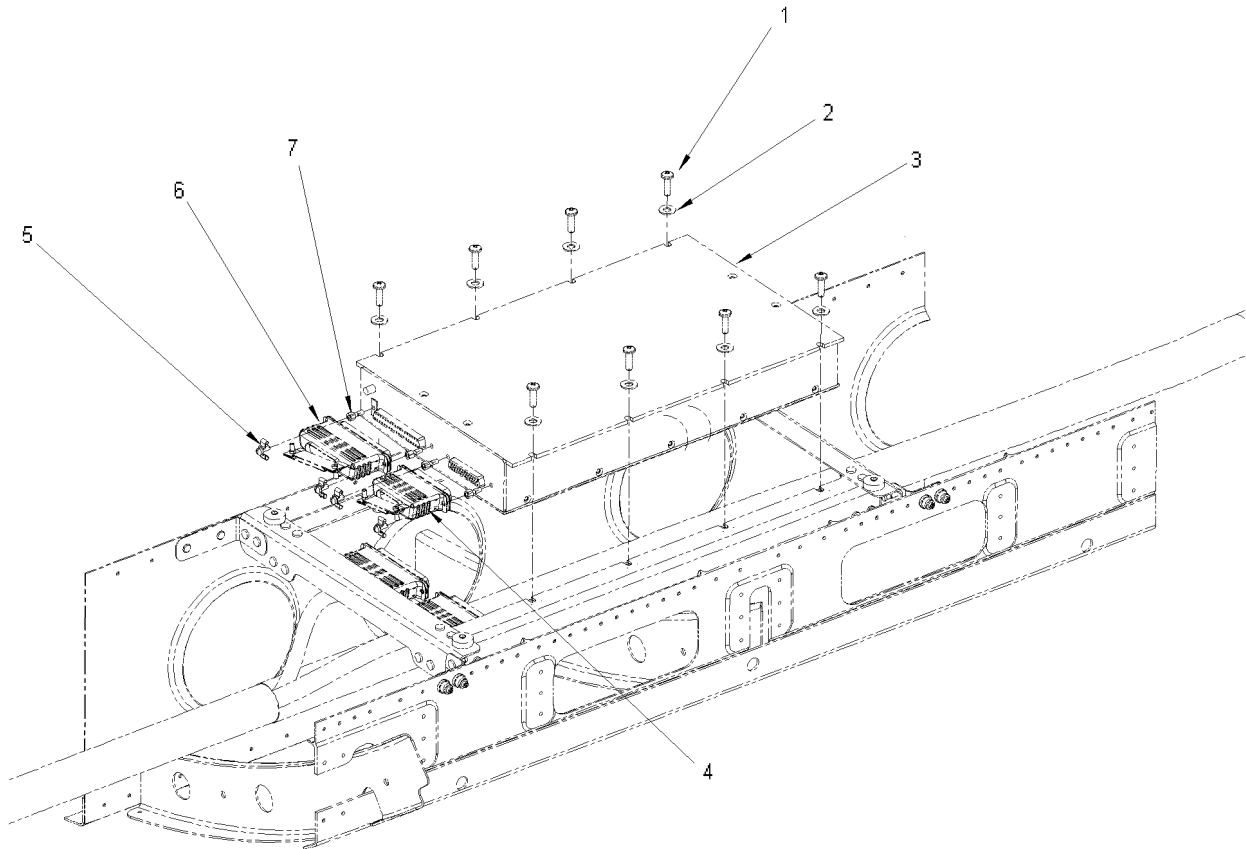

Figure 4
- (11) Attach the locking hardware (5, Figure 4), one on each side of the connector on 39A10P01 (4, Figure 4) and 39A10P02 (6, Figure 4).
- (13) Install the Amplimite 5748270–2 Screwlocks (7, Figure 4), one on each side of the connector with 222MS Locktite on DSU connectors 39A10J01 (4, Figure 4) and 39A10J02 (6, Figure 4). Torque the Screwlocks to 6 in.lbs.
- (14) Put the DSU (3, Figure 4) on the rails and align holes.
- (15) Attach the DSU (3, Figure 4) to the rails and with eight bolts (1, Figure 4) and washers (2, Figure 4). Torque the eight bolts (1, Figure 4) to 30-40 lbf.in (3,4-4,5 m.N).
- (16) Connect the electrical connectors 39A10P01 (6, Figure 4) and 39A10P02 (6, Figure 4) and to the DSU (3, Figure 4). Torque the screws (5, Figure 4) to 4 in.lbs.
- (17) Using a Extech Milli-Ohmmeter, bond the DSU (3, Figure 4) to the rails. Refer to AMM - 20-03-00-051-801 - ELECTRICAL BONDING - MAINTENANCE PRACTICES. Resistance must be 2.5 milliohms or less.
- (18) If pulled, close the following:
- (19) Do the Adjustment/Test of the DSU, Refer to AMM - 31-30-00-071-801 - DISPLAYS AND CONTROL PANELS - ADJUSTMENT/TEST, SUBTASK AMM-31-30-00-071-701-002.
- (20) Install the 131 AZ - Floor Panel, Forward Left Cabin. Refer to AMM - 06-50-00-051-801-A - AIRCRAFT ACCESS PANELS or AMM - 06-50-00-051-801-B - AIRCRAFT ACCESS PANELS.
- (21) Install the pilot's seat. Refer to AMM - 25-12-01-041-801 - COCKPIT SEAT COMPONENT - INSTALLATION.
- (22) Install the left front passenger seat (if removed). Refer to AMM - 25-21-10-041-801 - PASSENGER SEAT - INSTALLATION.
- (23) Remove all tools, equipment and unwanted material from the work area.
- (24) If all other maintenance is complete, return the aircraft to service. Refer to AMM-20-00-02-921-001.